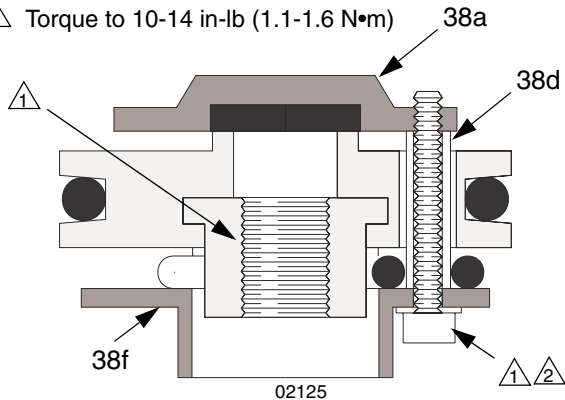

FIG. 12
- If any valve plate spacers (38d) are damaged, replace all three to maintain the correct clearance between the valve plates (18a,18f) and the seats. See FIG. 12.
① Apply locking compound to threads.
② Torque to 10-14 in-lb (1.1-1.6 N•m)